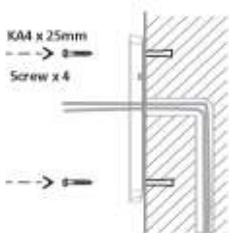

Figure 6
B. With 4 KA4 x 25mm screws, tighten the Wall-mounted hanging shell as shown in Figure 6.